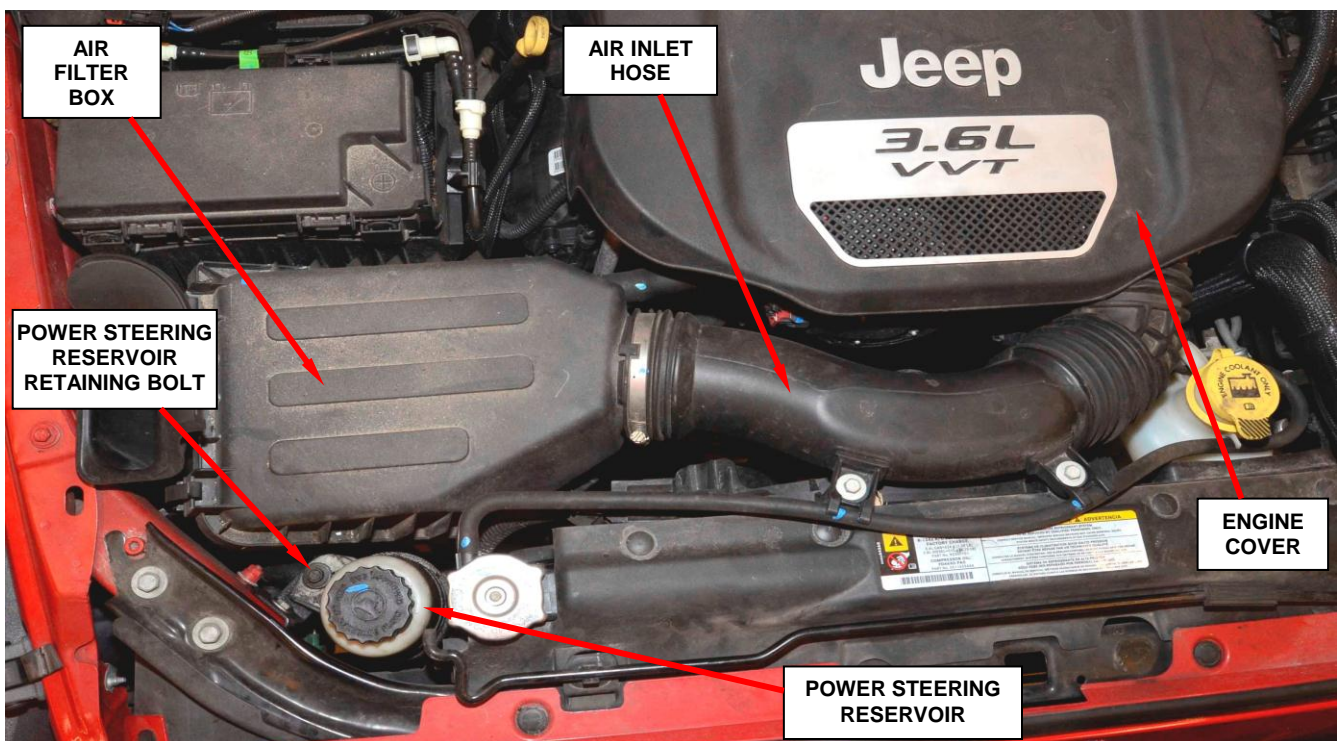

Figure 11 – Air Box and Air Inlet Hose
4. Remove and save the air filter box and air inlet hose (Figure 11).
5. Remove and save the power steering reservoir retaining bolt (Figure 11).
23. Install the air filter box and air inlet hose (Figure 11).